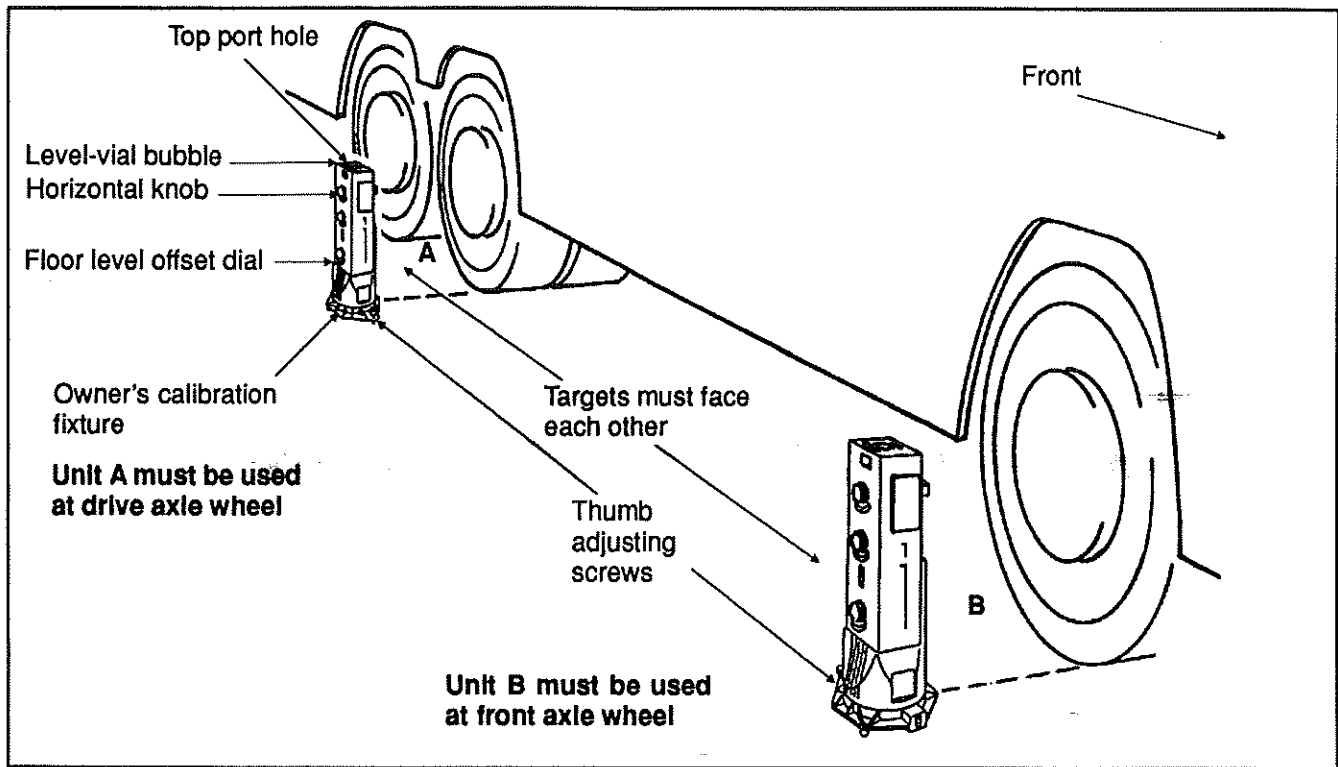

Fig. 42
2. Fix one (1) calibration fixture to each aligner.
3. Install aligner in center of each wheel on one side of vehicle. Unit B must be installed besides the front axle wheel with its viewing port facing rearward, and unit A besides the drive axle wheel with its viewing port facing forward. See figure 42 for more details.